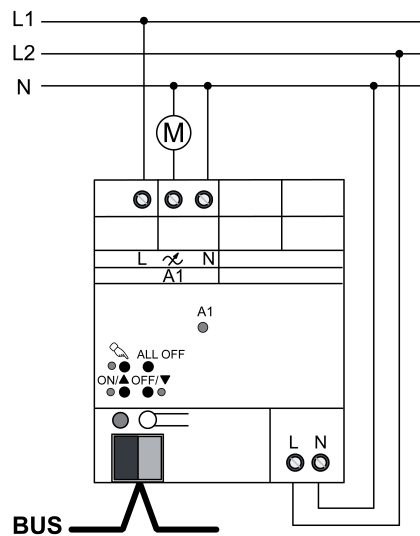

Figure 6: Dimmer actuator 1-gang – connection for speed controller operation
- Connect device as shown in the connection example (Figure 6).